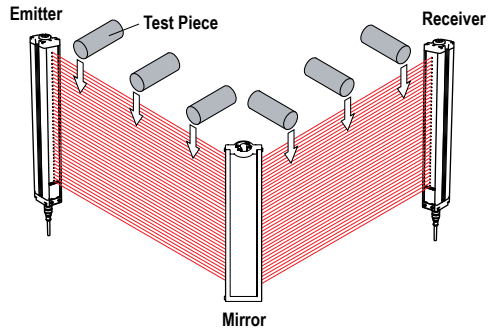

Figure 27. Trip Test with Corner Mirror
5. If mirrors are used in the application: Test the defined area on each leg of the sensing path (for example, emitter to mirror, between mirror and receiver, see Figure 27 on page 35).